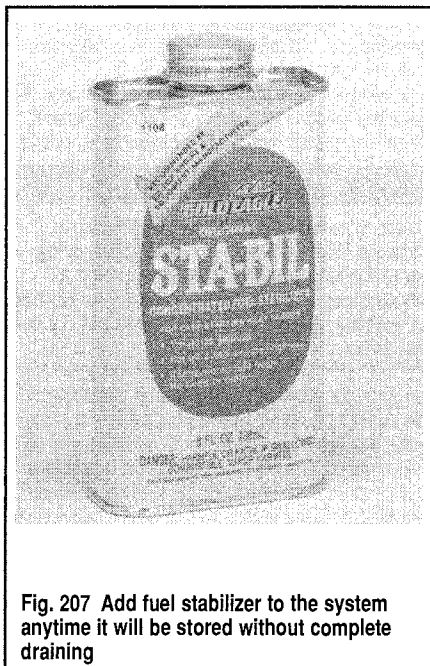

Fig. 207 Add fuel stabilizer to the system anytime it will be stored without complete draining
◆ See Figure 207
- ◆ See Figure 207, 208 and 209